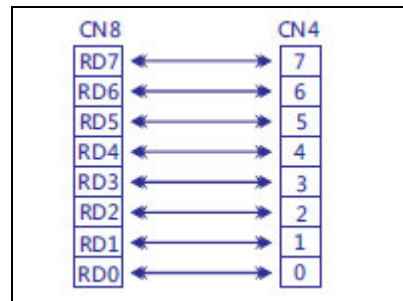

Figure 7b - Cable connection diagram
2. Connect CN4 with CN8 using a ribbon cable. Please pay attention to the *orientation* of the parallel connection (i.e., RD<x> of CN8 should be connected to pin<x> of CN4, where <x> = 0 to 7. See Fig. 7b)